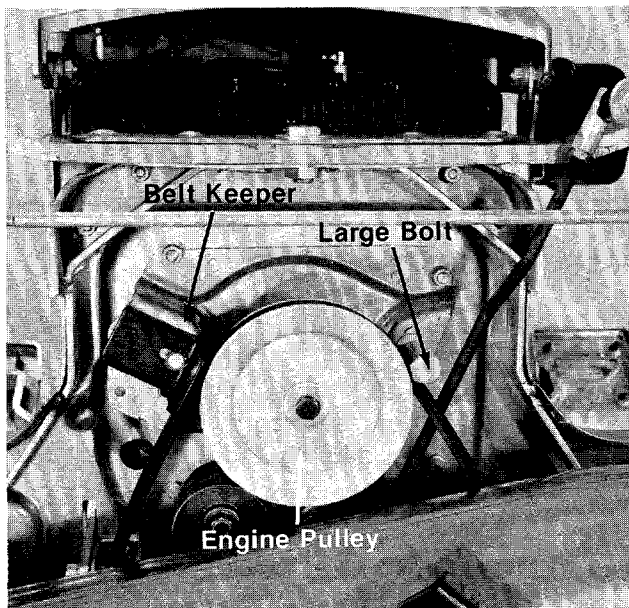

FIGURE 38.
2. Remove the belt keeper and large bolt from the engine pulley. See figure 38.
3. Remove the belt keeper and large bolt from the engine pulley. See figure 38.